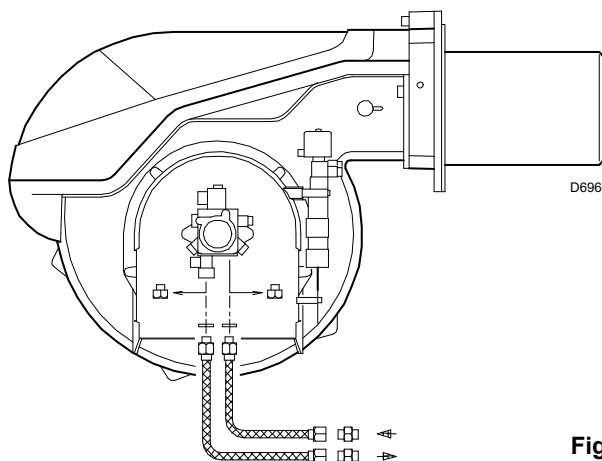

Fig. 17
7.2 Hydraulic connections (Fig. 17)